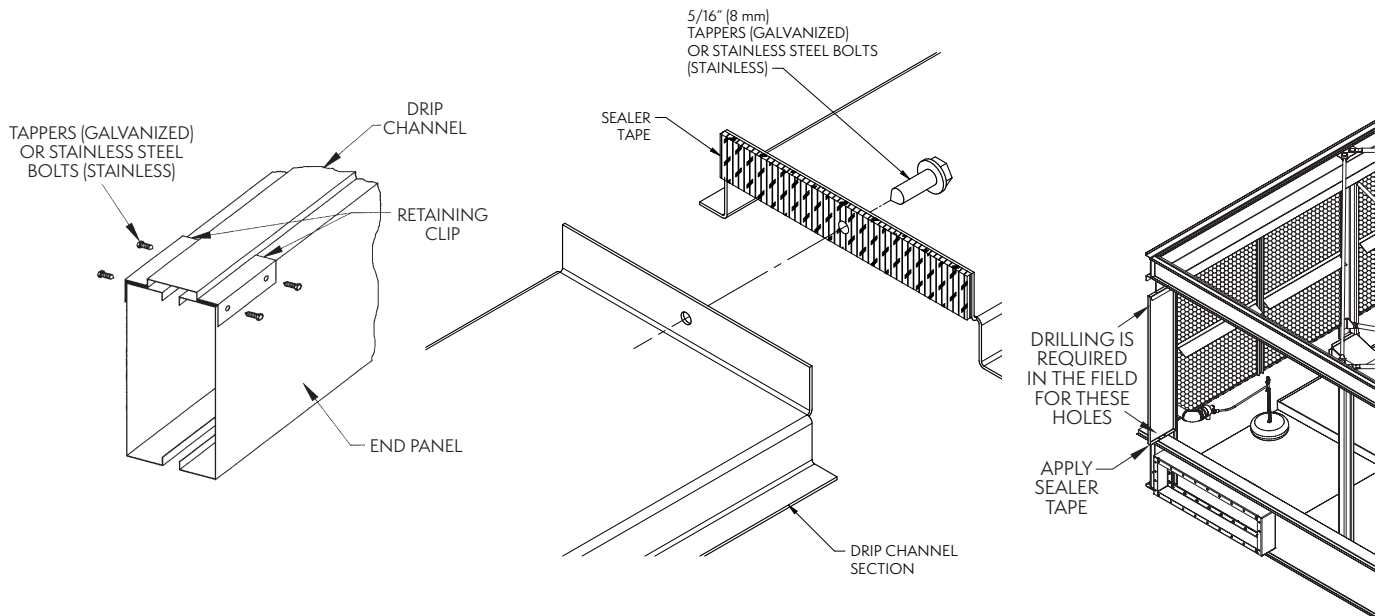

Figure 2b – Drip Channel and Vertical Splash Guard Installation
9. If there are multiple drip channels, apply sealer tape as shown in **Figure 2b**, fasten them together end-to-end by driving a self-tapping 5/16" (8 mm) screw through the section end with the larger hole into the mating end with the smaller hole. Stainless steel units will use 5/16" (8 mm) stainless steel nuts and bolts.
10. Place the vertical splash guard in the bend of the vertical supports. On galvanized units, attach the vertical splash guard using 5/16" (8 mm) self-tapping screws. On stainless steel units, attach the vertical splash guards using 5/16" (8 mm) stainless steel nuts and bolts. (See **Figure 2b**)
11. Attach the bottom of the vertical splash guard to the drip channel using 5/16" (8 mm) hardware and sealer tape as shown in **Figure 2b**.
12. This step only applies to units with a 5-1/8" (130 mm) spacing between cells. Place the filler cap channel in the upper flanges of the bottom section as shown in **Figure 2b**. Attach to vertical splash guards using 5/16" (8 mm) tappers (for galvanized units) or stainless steel nuts and bolts (for stainless steel units)